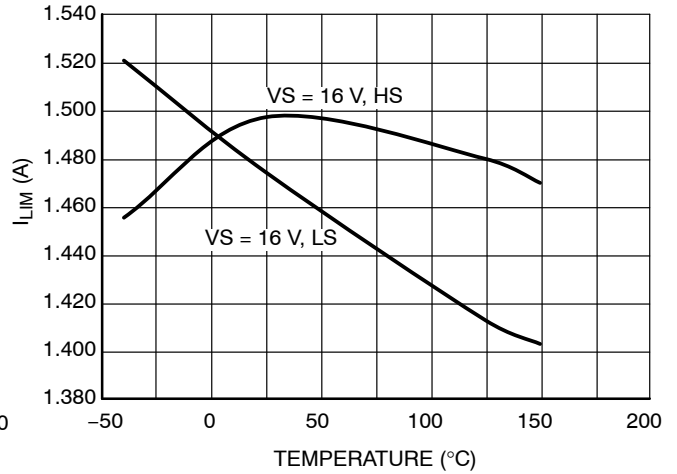

Figure 13. Output Over Current vs. Temperature
- Refer to Figure 13 for current limit behavior.